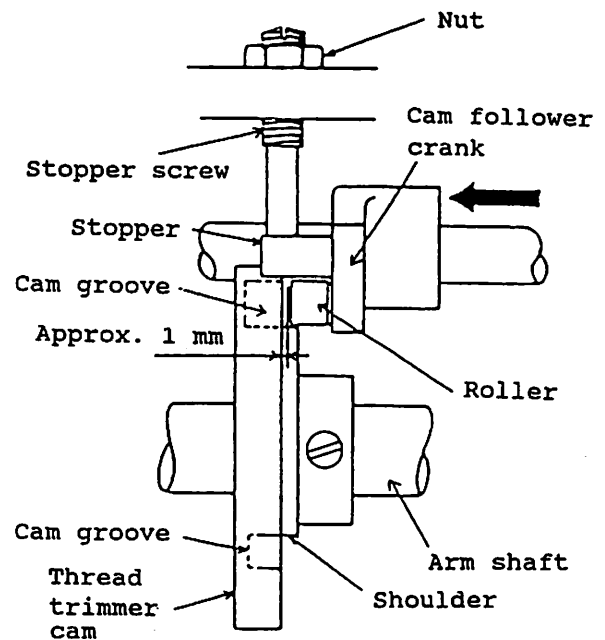

Fig. 9.25
- (1) Adjust the cam follower so that the roller is normally positioned on the cam shoulder about 1 mm away from the thread trimmer cam, as shown in Fig. 9.25.
- (2) Use your hand to press the cam follower crank in the direction of the arrow in Fig. 9.25, and check that the roller engages with and disengages from the cam groove without resistance.
- (3) The range in which the roller can be engaged and disengaged is where the cam groove is concentric with the arm shaft. If the roller cannot be engaged and disengaged smoothly, check that the roller is positioned on the shoulder, loosen the nut in Fig. 9.25, tighten the stopper screw until it makes contact with the cam follower crank stopper, loosen the stopper screw by about one-third of a complete turn, and then tighten up the nut.